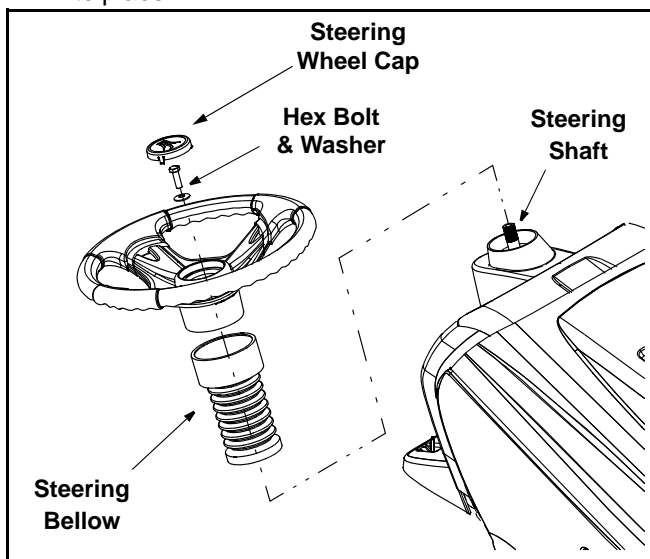

Figure 1
- Place the steering bellow over the steering shaft extending through the dash. See Figure 1.
- Place the washer (with the cupped side down) over the steering shaft and secure with the hex bolt. See Figure 1.